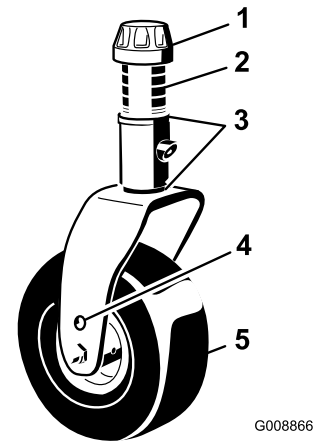

Figure 23
- Spacers (4)
- Remove the tensioning cap from the castor shaft (Figure 23). and slide the shaft out of the castor arm. Put 2 shims (1/8 inch [3 mm]) onto the castor shaft as originally installed. Slide the appropriate number of 1/2 inch spacers onto the shaft to get the desired height-of-cut.
- Push the castor shaft through the front castor arm. Install the shims (as originally installed) and the remaining spacers onto the shaft. Install the tensioning cap to secure the assembly (Figure 23).